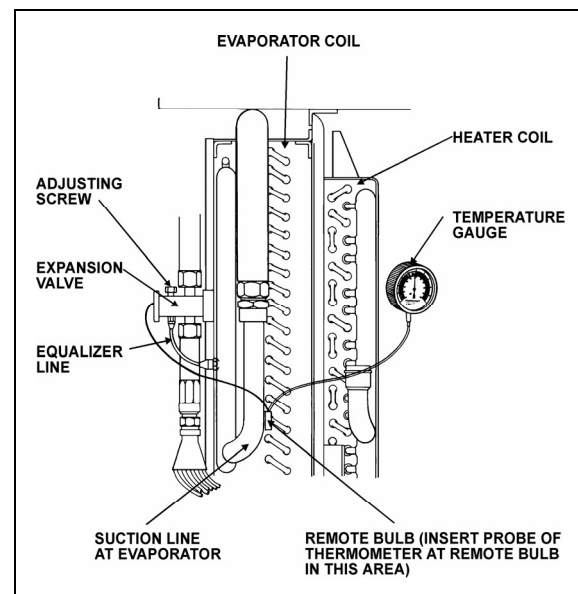

FIGURE 36: SUPERHEAT ADJUSTMENT INSTALLATION
The starting method of adjusting the superheat is to unscrew completely the main evaporator expansion valve adjusting screw, then screw in 13 turns clockwise for 134A (Fig. 36). Afterwards, the following procedure should be followed:
3. Install a remote reading thermometer to the evaporator outlet line near the existing remote bulb (Fig. 36).